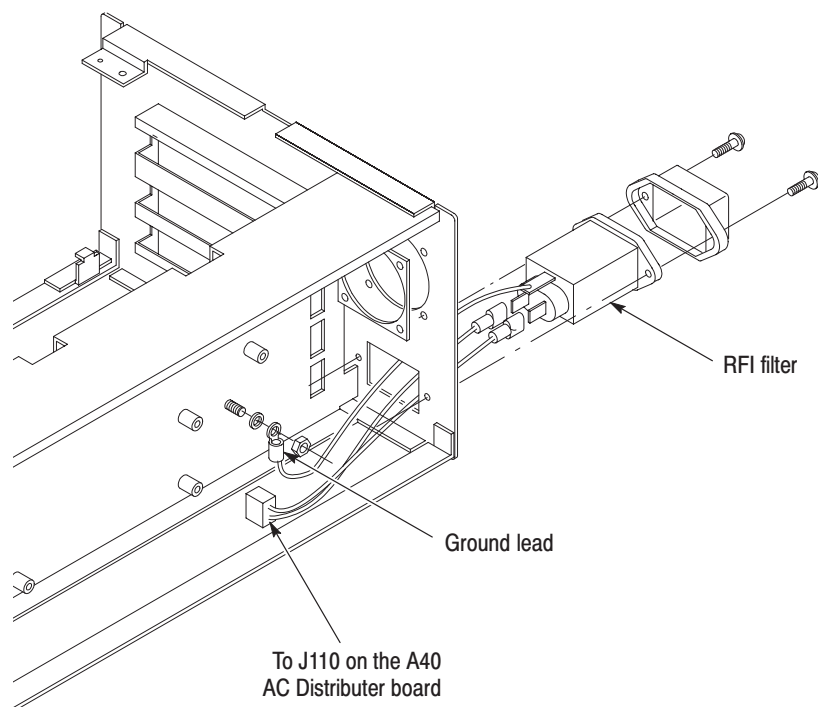

Figure 6-15: RFI filter removal
3. *Remove the RFI filter:* See Figure 6-15.